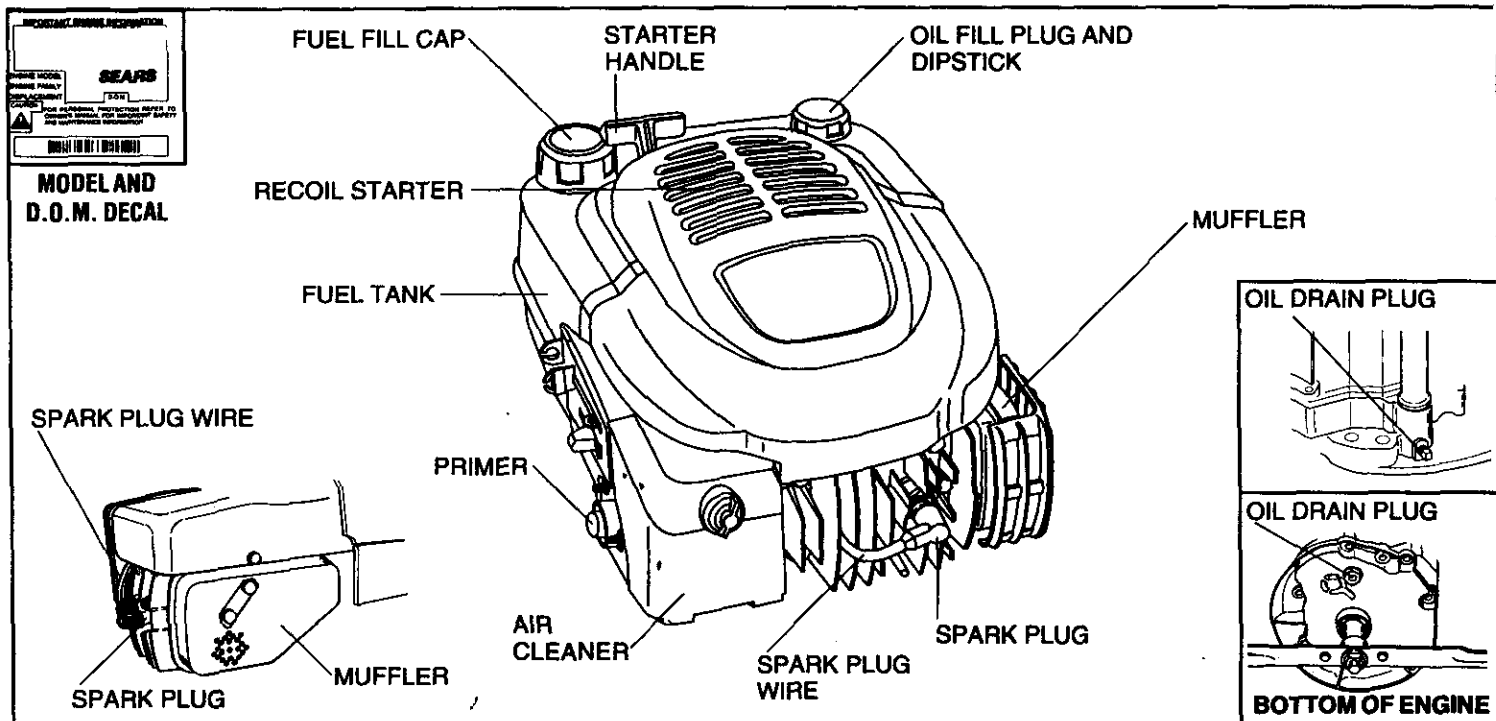

Figure 1
- B. Clean area around oil fill plug (see Figure 1).
④ FILL FUEL TANK with gasoline as specified in the preceding "OIL & FUEL RECOMMENDATIONS," item 2.
⑤ CHECK THE FOLLOWING:
- B. Be sure spark plug wire is attached to spark plug (see Figure 1).
- C. Remove oil drain plug and oil fill plug to drain oil (see Figure 1).